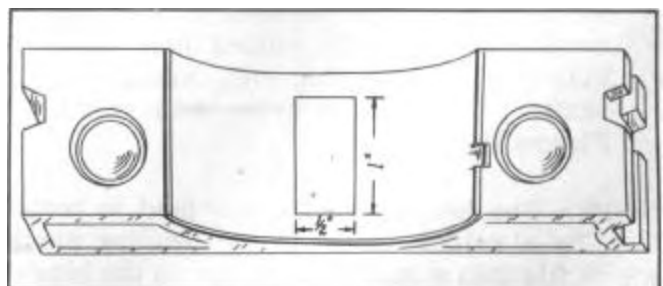

FIGURE 15
4. If crankshaft turns too freely, check for loose bearings working one bearing at a time by placing a piece of brass shim stock .002" thick, 1/2" wide and 1" long between the bearing face and the crankshaft journal Figure 15.